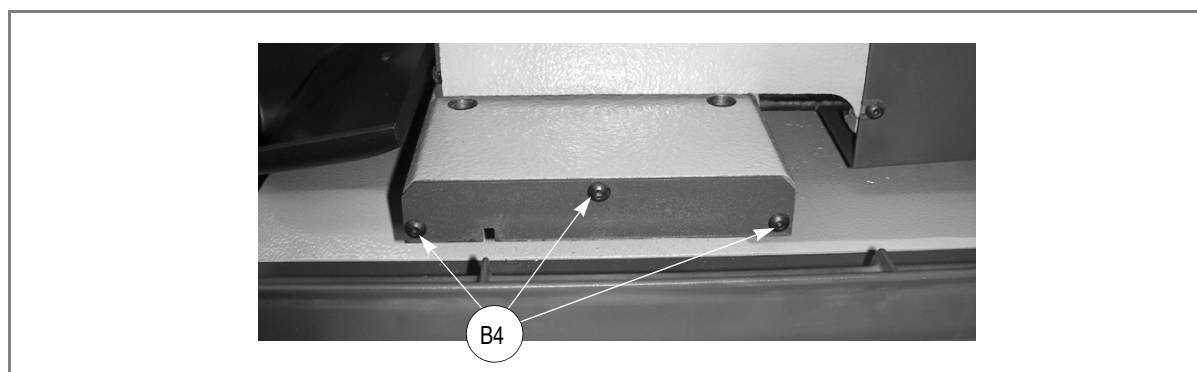

Fig. 58
- 5) remove the front cover on the (X axis) lower carriage by unscrewing the 3 (B4) screws (fig. 58).